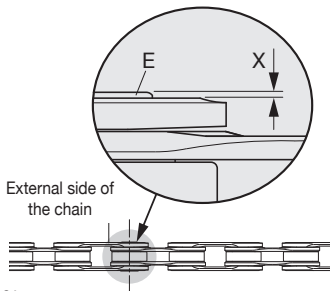

Fig.21
- The slight protrusion (X) (towards the external side of the chain) of the small pin (E) from the link (Fig. 21) is entirely normal and does not obstruct normal chain movement. **NEVER** try to eliminate this protrusion!